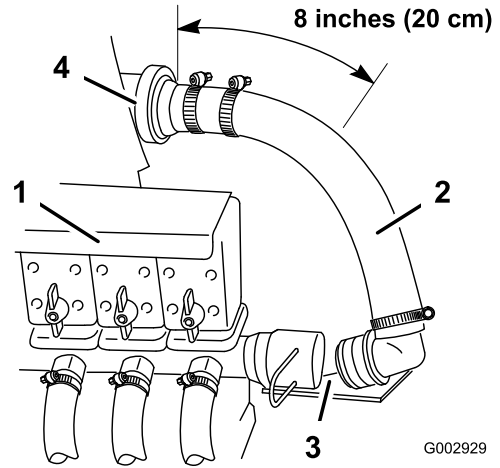

Figure 6
- Remove the retainer securing the end of the boom supply hose connected to the tee located to the right of the boom supply valves and disconnect it (Figure 6).
- Cut the boom supply hose 8-3/4 inches (22 cm) to the right of the flow meter (if equipped) or 32 inches (81 cm) from the supply tee (located directly behind the boom valves) using a hacksaw (Figure 6). Remove the hose clamp from the loose end and discard the hose and fitting.